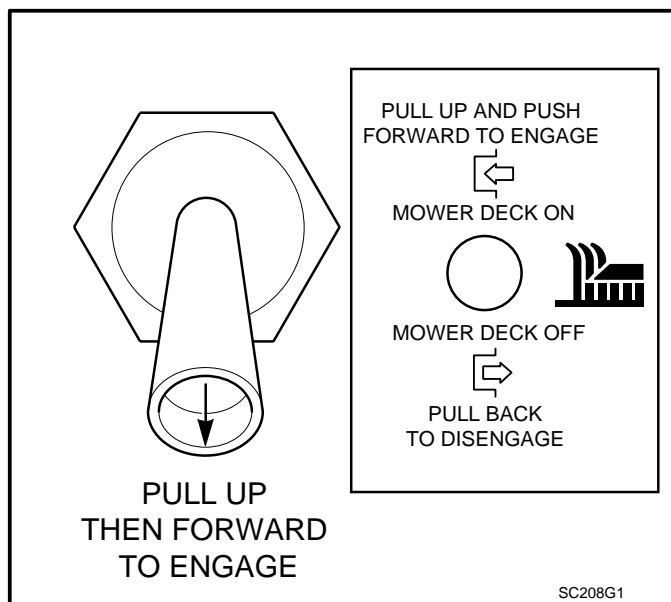

Figure 8
9. Pull the mower engagement switch out and push it forward to engage the cutter drive belts. (See **Figure 8**) Allow the belts to run for five minutes.